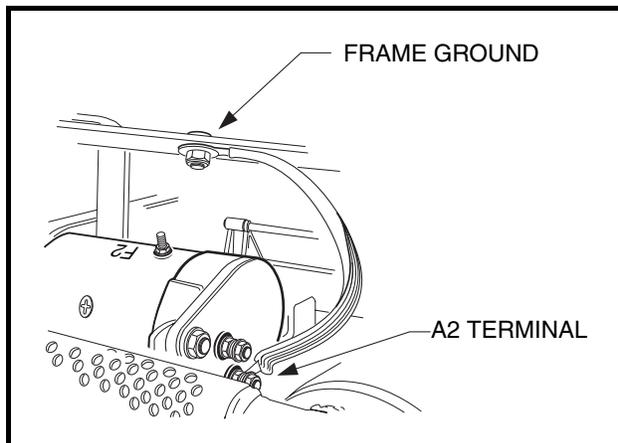

Figure 11-4 Starter/Generator Ground Cable Test
- Set the multimeter to 200 (ohms). Place the red (+) probe on the A2 terminal of the starter/generator and place the black (–) probe on the vehicle frame (**Figure 11-4, Page 11-11**). The reading should be continuity. If there is no continuity, clean and tighten cable connections. If the connections are good, repair or replace the cable.